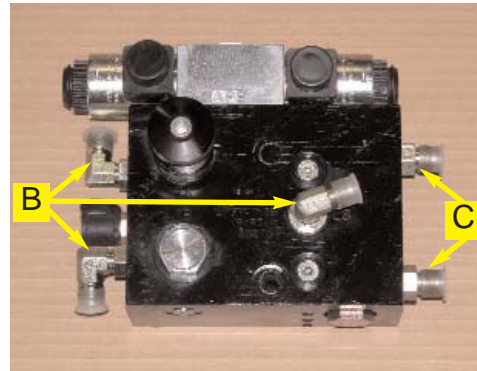

Figure 1. Prepared automated steering block.
- a. Make sure the automated steering block (A) is clean and dust free.
- b. Install the elbow adapter fittings (B) into the LS, P and T ports of the automated steering block. (Figure 1.)
- c. Install the straight adapter fittings (C) into the A and B ports. (Figure 1.)